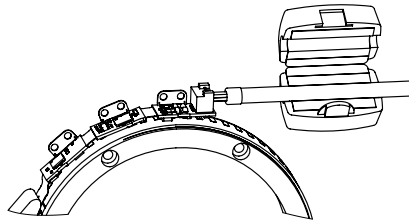

Fig. 5: Ferrit Sleeve
- ▶ To achieve the required immunity, a ferrite sleeve (item no. 79179) must be mounted as close as possible to the connector or to the downstream electronics on the cable (see Fig. 5).